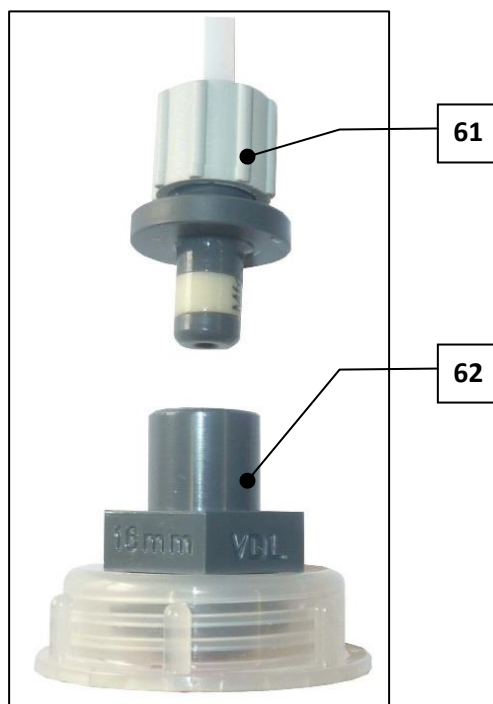

Fig. 36: Politainer connection
- 2) Now pull the *connecting plug* (Fig. 36, No. 61) out of the connecting sleeve of the *politainer connection* (Fig. 36, No. 61) and hold the empty brine politainer in your hand with the **lid pointing upwards**.